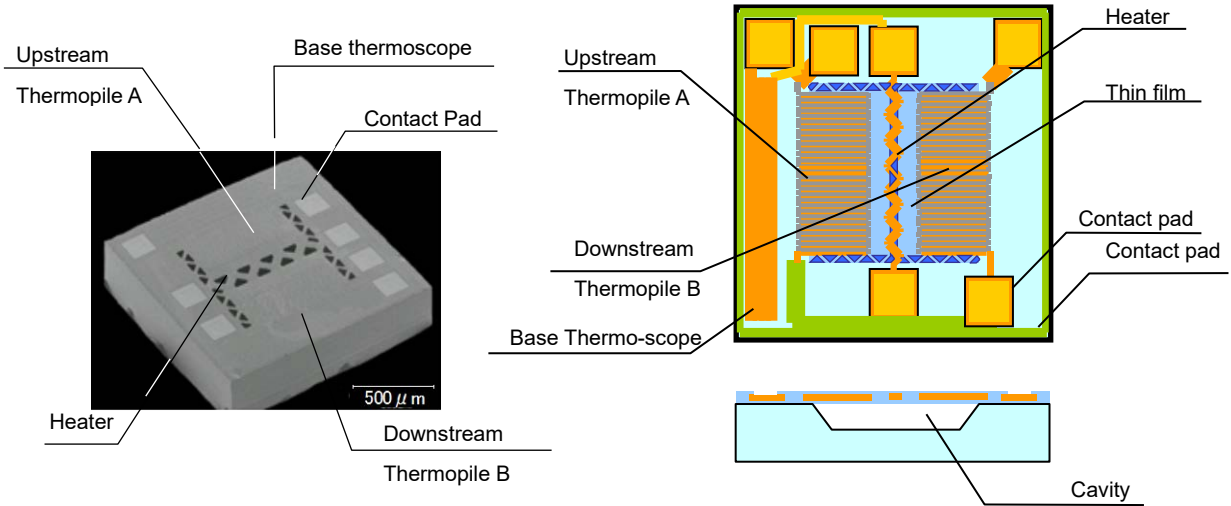

Fig.3. Flow Sensor Chip Structure
The basic structure of a MEMS flow sensor chip is shown in Fig.3. This sensor chip adopts a mass flow sensing method by using heat wire. It has a heater in the center of the chip, and the upstream thermopile (A) and the downstream thermopile (B) are located on either side of the heater, the base thermo-scope near the thermopile is made by a semiconductor process. The cavity is formed at the bottom of the heater and the thermopile arrays, so then it is possible to detect the heat from the heater effectively.